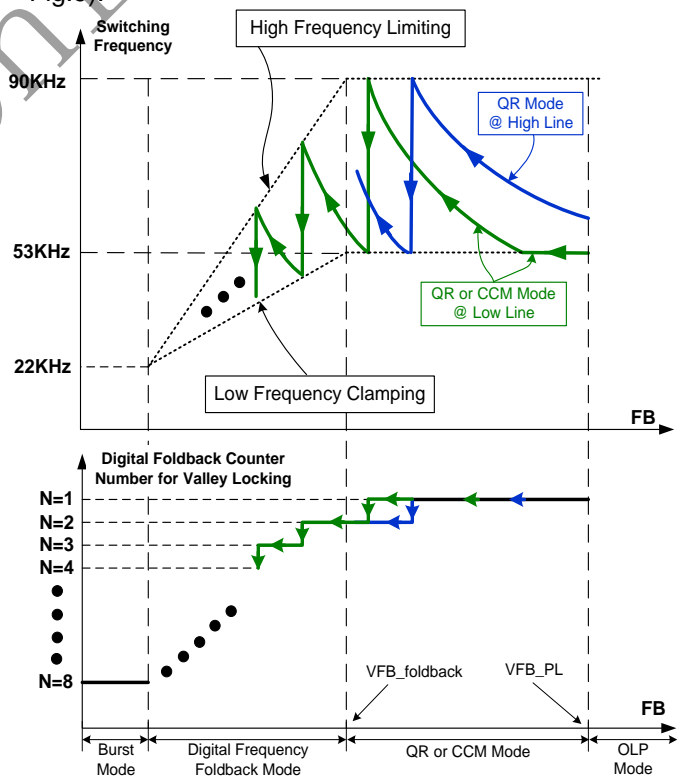
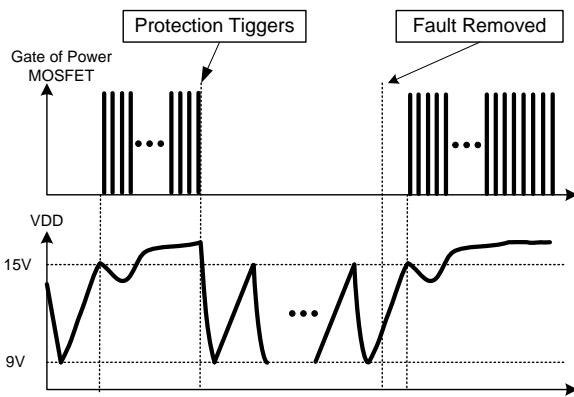

Fig.3
Fig.9
■ At normal or full loading conditions, the operating mode is CCM when the input is in low line range since the low clamping frequency (52KHz typical) is touched. Thus, small size transformer can be used with high power conversion efficiency. When the input is in high line input range, the IC work in QR mode with high frequency clamping (typical 80KHz), as shown in Fig.3. When FB voltage is larger than VFB PL, the system enters into OLP mode with auto recovery protection (as illustrated in Fig.8 and Fig.9).
■ At light loading conditions (FB voltage is below VFB_foldback), the IC works in “**Digital Frequency Foldback**” mode. The system frequency is limited between “High Frequency Limiting” and “Low Frequency Clamping”, as shown with the dashed line in Fig.3. In “**Digital Frequency Foldback**”
As shown in Fig.9, once a fault condition is detected, switching will stop. This will cause VDD to fall because no power is delivered from the auxiliary winding. When VDD falls to UVLO(off) (typical 9V), the protection is reset and the operating current reduces to the startup current, which causes VDD to rise, as shown in Fig.9. However, if the fault still exists, the system will experience the above mentioned process. If the fault has gone, the system resumes normal operation. In this manner, the auto restart can alternatively enable and disable the switching until the fault condition is disappeared.